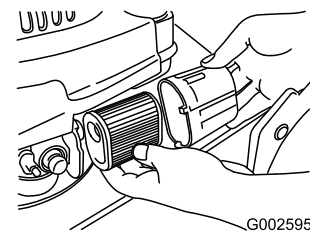

Figure 30
- Rotate the air filter cover to remove it (Figure 30).